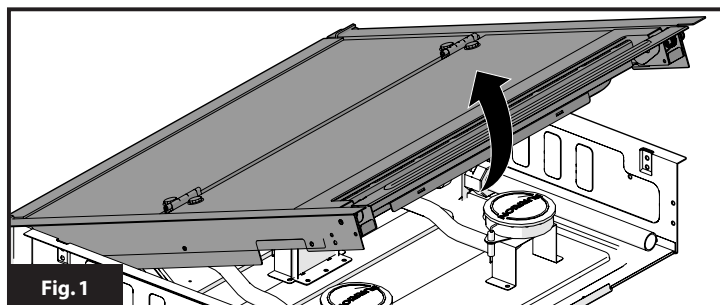

Fig. 1
2. Hold the baffle and pull upward to release the top glass cover assembly from the cooktop. (Fig. 1)